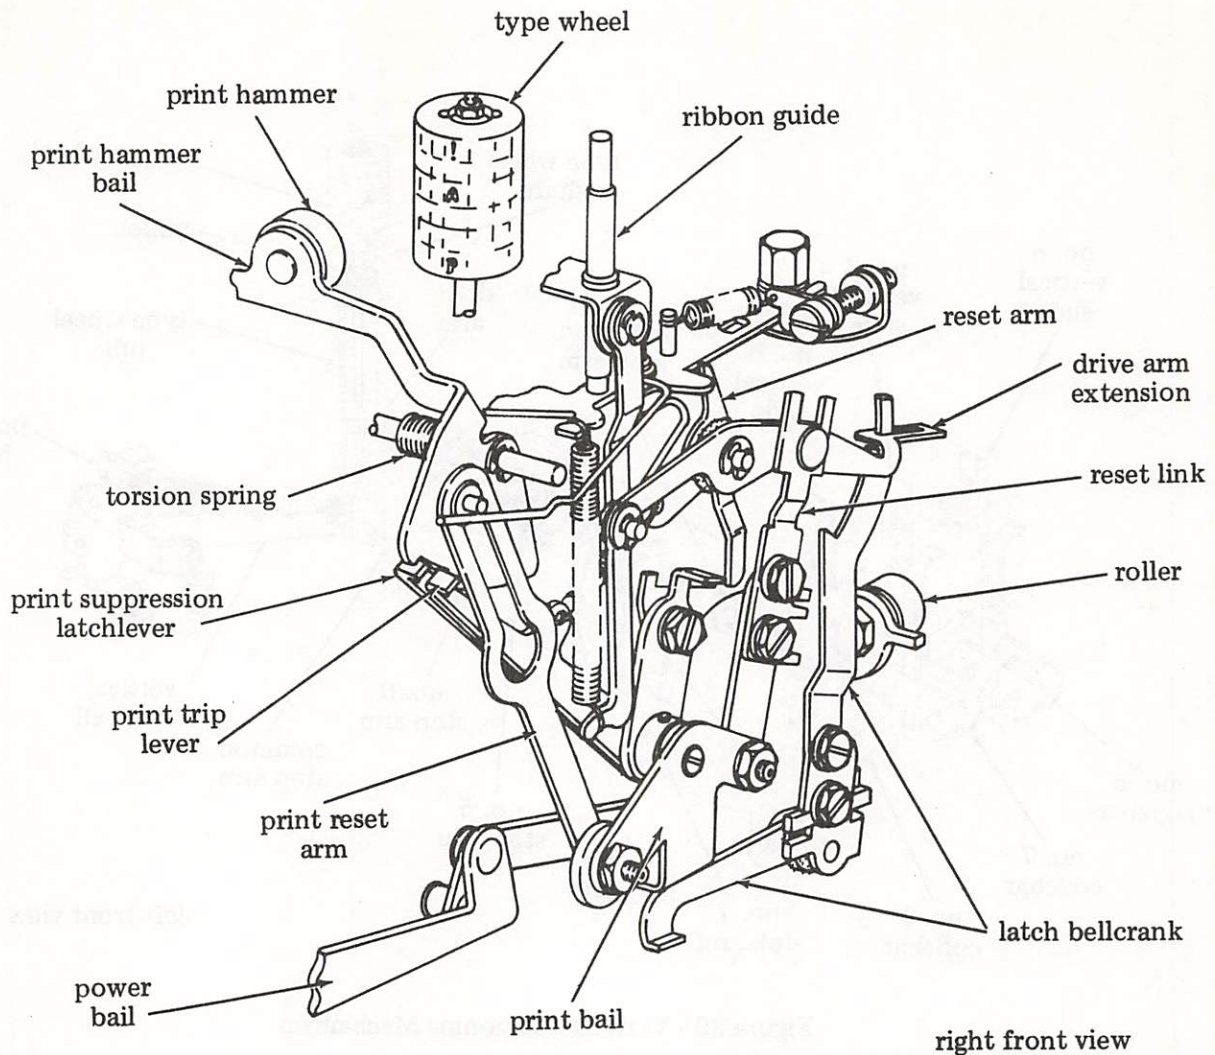

Figure 30 - Printing Mechanism
4.77 After the type wheel has been positioned, the printing mechanism illustrated in Figure 30 supplies the motion required to print the selected character. The motion is transferred through the proper levers, bails, springs, etc. to the rubber print hammer which strikes the type wheel forcing it against the ribbon and paper.
4.91 When the function "ESCAPE" "3" is received (local or remote), the "R" codebar moves up and engages the lower extension of the latch bellcrank (Figure 30). The latch bellcrank pivots, allowing the drive arm to move the ribbon guide up. Printing will then occur in the lower half of the ribbon, or red.